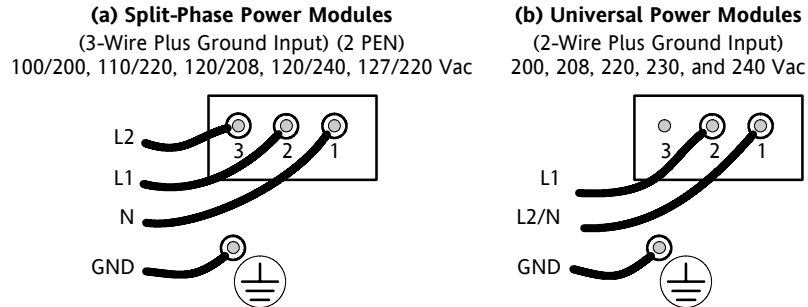

Figure 28. UPS Input Wiring
6. Wire the UPS for the proper input voltage as shown in Figure 28.
Confirm that the UPS is wired for the proper input voltage as shown in Figure 28, and that the proper power modules (either split-phase or universal) are installed to produce the desired output voltage. Do not mix the two types of power modules in the same UPS cabinet.